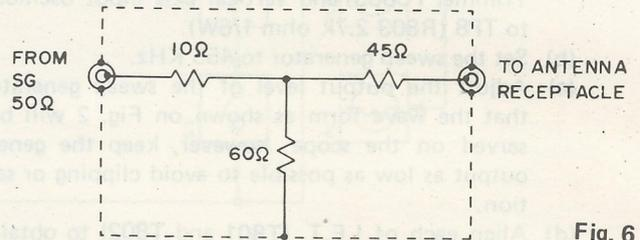

Fig. 6
- (a) Connect the V.T.V.M. to the speaker output of either channel and the output of FM RF signal generator to the antenna receptacle through FM dummy antenna. (See Fig. 6)